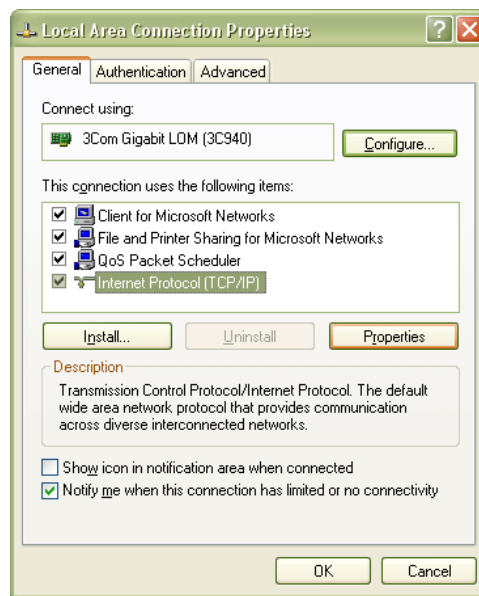

FIGURE 2-3: LOCAL AREA CONNECTION PROPERTIES DIALOG BOX
- 4) Select **Internet Protocol (TCP/IP)**, then click the **Properties** button as shown in Figure 2-3.